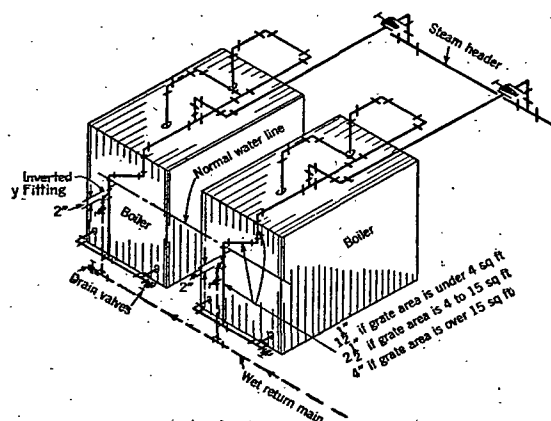

FIG. 20. THE HARTFORD RETURN CONNECTION
In order to prevent the boiler from losing its water under any circumstances, the use of the Hartford return connection is recommended. This connection for a one- or two-boiler installation is shown in Fig. 20. The essential features of construction of a Hartford return connection are: (1) a direct connection (made without valves) between the steam side of the boiler and the return side of the boiler, and (2) a close nipple, or preferably an inverted Y-fitting connection about 2 in. below the normal boiler water line from the return main to the boiler steam and return pressure balance connection. Equalizing pipe connections between the steam and return are given in Fig. 20, based on grate areas, but in no case shall this pipe size be less than the main return piping from the system.